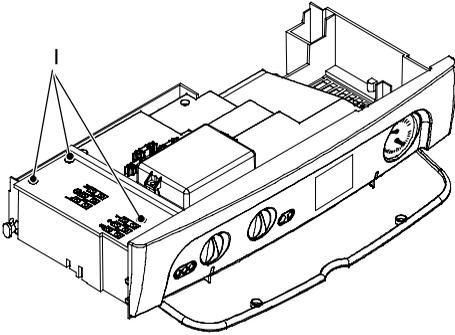

Fig. 6.14
- 5 Loosen the screws I and remove the service panel (Fig. 6.14).